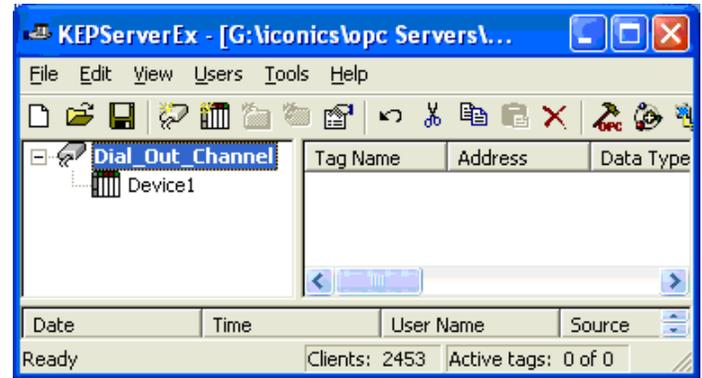

Figure 2 - Kepware Server Configuration
2. Figure 2 shows the Kepware server configuration with one channel and one device